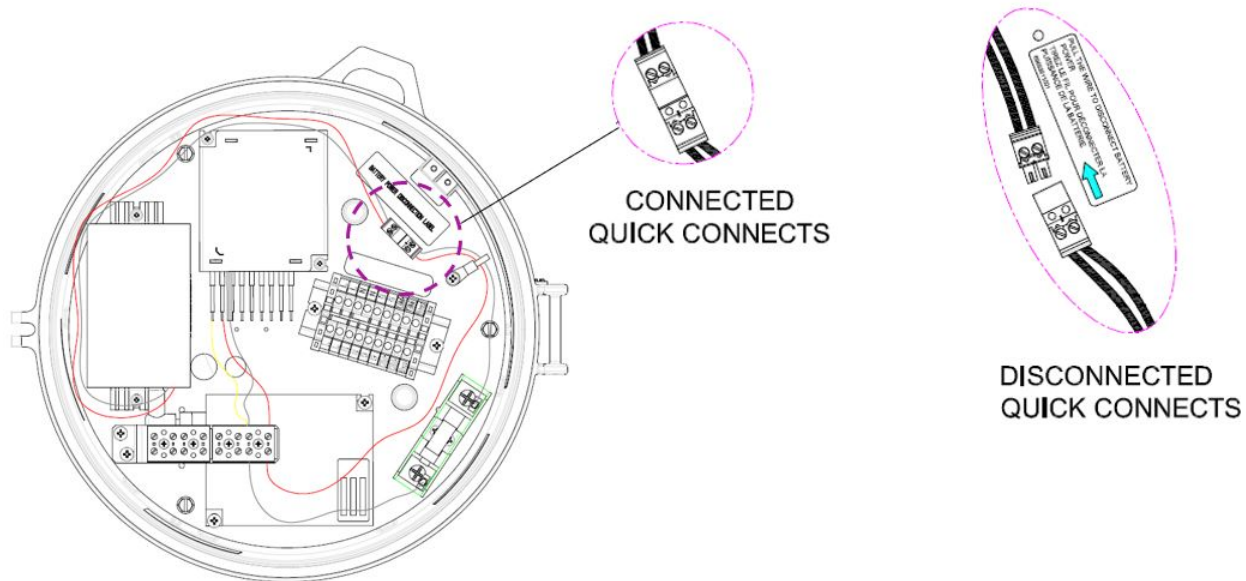

FIGURE 21: LUMINAIRE VIEWS (DISCONNECTION METHOD)
- a. Disengage “Battery Pack Quick Connect.” For reference, see the image below (Figure 21).
- b. Wait for five (5) seconds.